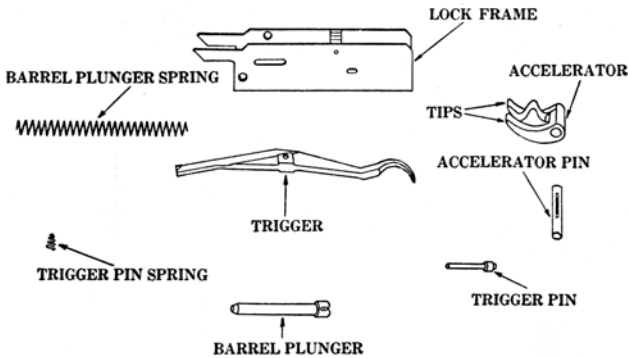

Figure 6. — Lock frame group.
■14. DETAILED DISASSEMBLING OF LOCK FRAME (fig. 6).